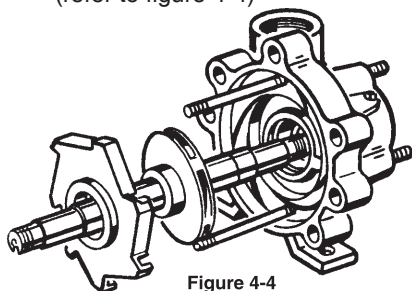

Figure 4-4
- Now slide the diffuser (#9BI) onto the shaft from the outlet end. The bore of the diffuser will fit around the hub of the impeller, and the impeller will now be encased inside the diffuser. (refer to figure 4-4)